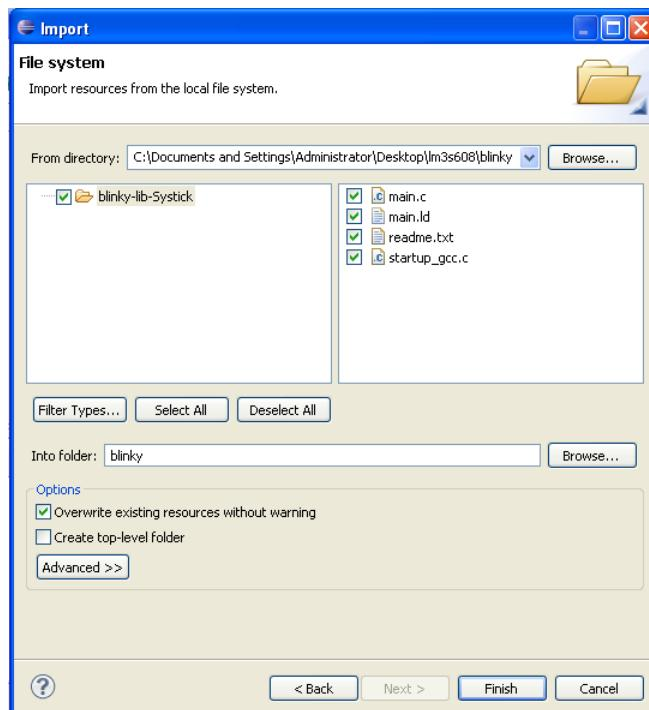

Figure 11.8 File System Window
- Browse and select the any project from the lm3s608 folder under “Softwares_Stellaris” on your desktop. Make sure same option as shown in Figure 11.8 are selected. Press Finish.